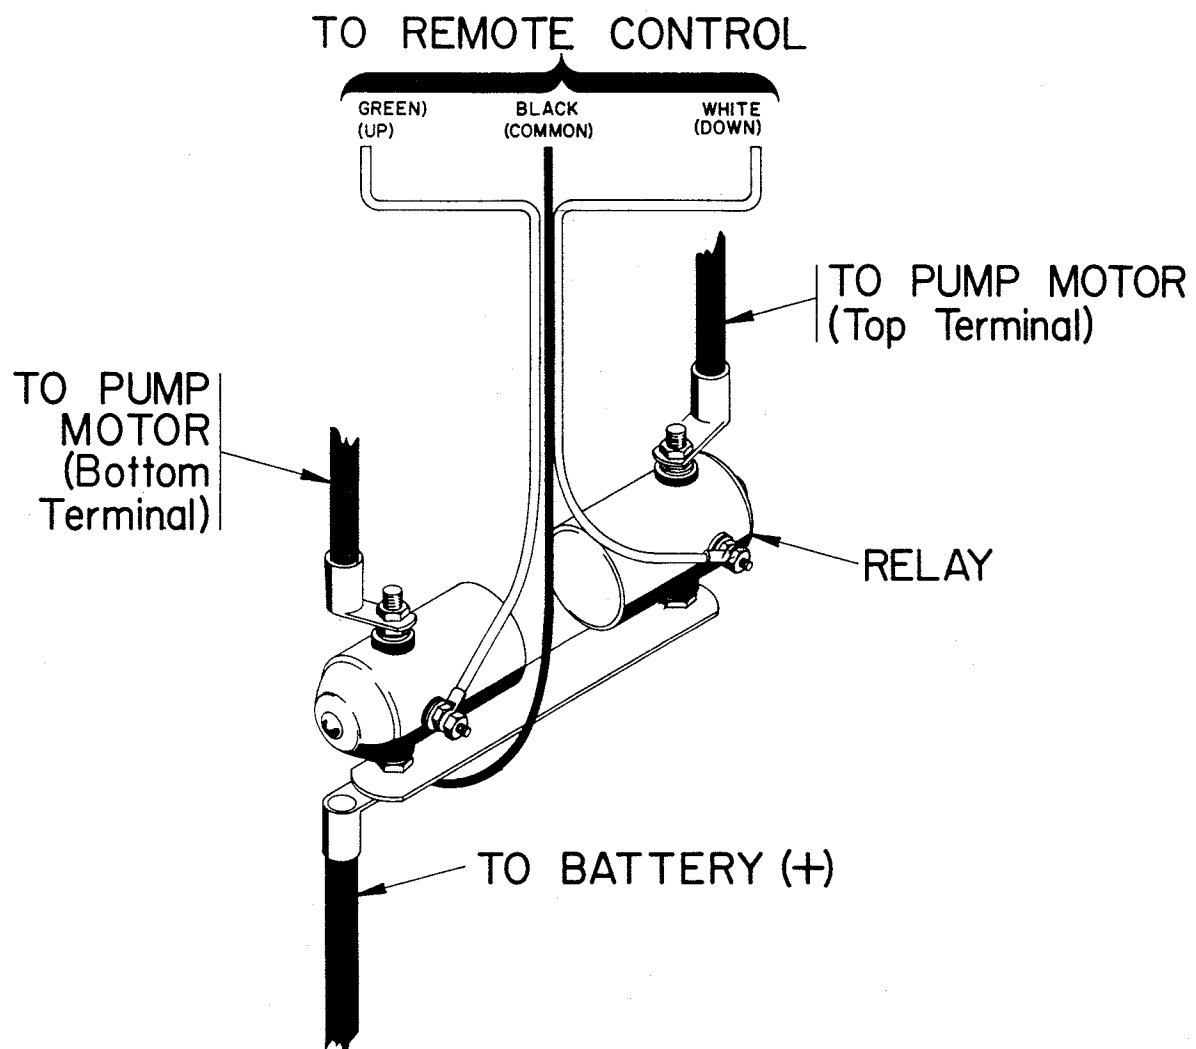

Figure G-1. Wiring Diagram
8. Feed the battery cable up through the base and connect it to the control solenoids (See Figure G-1). Connect the other end to the positive side of the battery.